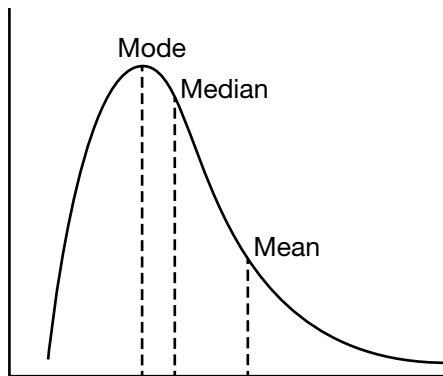

Figure 1. Mode vs. median and mean fragment lengths
- Fragmentation profiles for low-input samples (<10 ng into fragmentation) may not be highly informative, even when a high-sensitivity assay is used. In such cases, the outcome of fragmentation is best evaluated in terms of the size distribution of amplified libraries produced from the fragmented DNA. DNA fragmented with the KAPA Frag Kit typically yields profiles with a slightly positive skew. The mode (most frequent) fragment length referenced throughout this document corresponds to the “top of the peak” (as shown in Figure 1), and can differ significantly from the median (middle) or mean (average) fragment length.